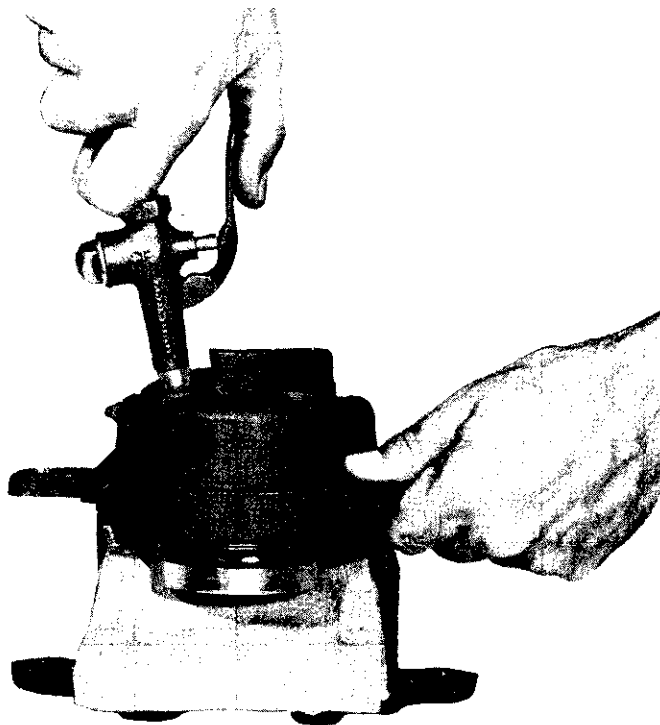

Fig. 2G-36 Piston Removal
(1) Clean caliper exterior with brake cleaning solvent.
(2) Drain remaining fluid from caliper and place caliper on clean work surface.
(3) Pad caliper interior with clean shop cloths (fig. 2G-36).
(4) Insert air nozzle into caliper fluid inlet hole and slowly apply just enough air pressure to ease piston out of bore (fig. 2G-36).
(5) Remove and discard dust boot. Use screwdriver to pry boot from bore (fig. 2G-37). Do not scratch piston bore during boot removal.
(6) Remove and discard piston seal. Use pencil or similar wood implement to remove seal (fig. 2G-38).
(7) Remove bleeder screw.
(8) Remove and discard sleeves and rubber bushings from caliper mounting ears.